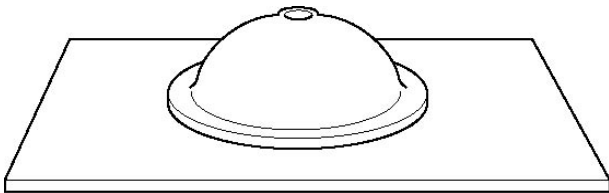

Figure C-7
- Position the bowl over the cutout, checking for a tight fit (Figure C-7).